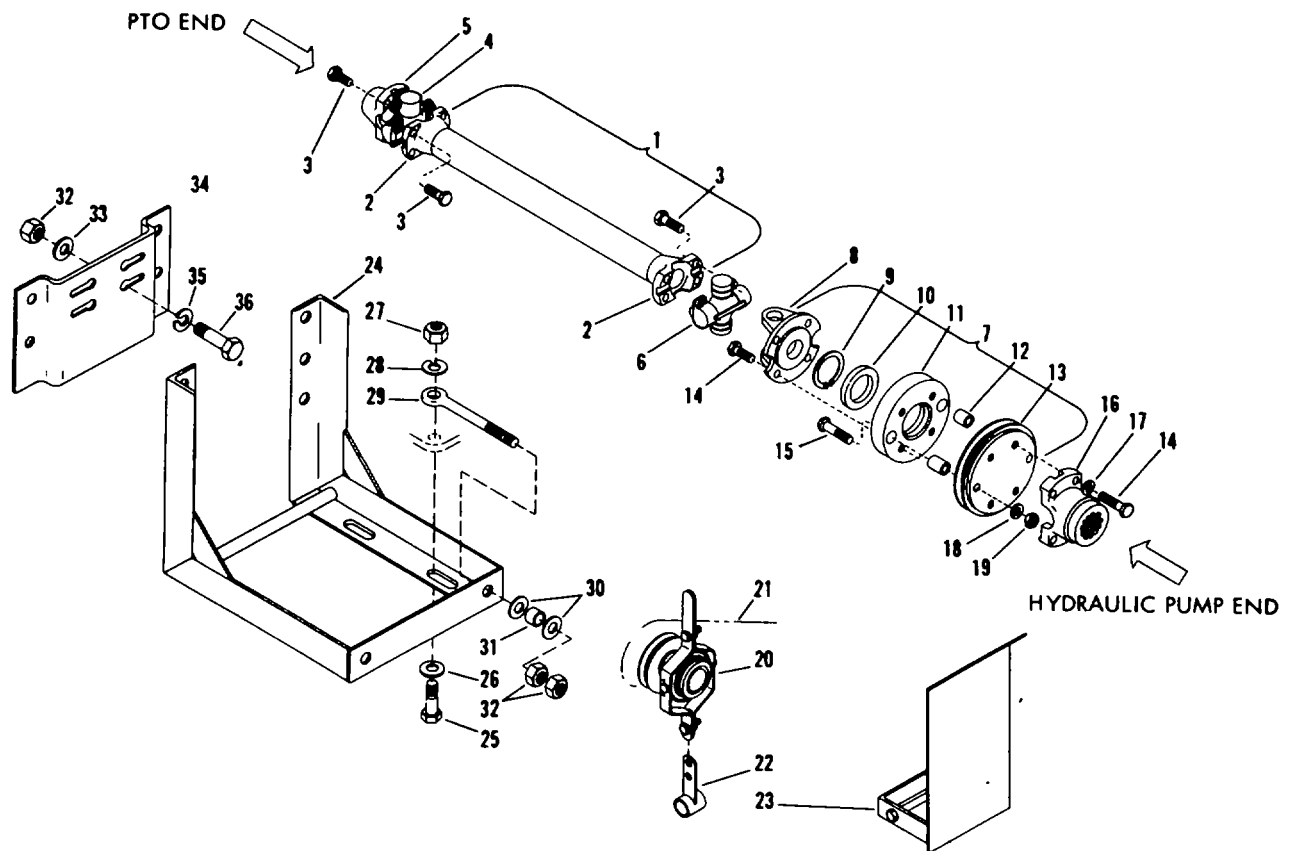

Figure 88. Blower Drive And Clutch
The blower unit (fig. 88) is belt-driven from a sheave (13) on the power take-off shaft of the PTO drive line. The V-belt is driven by a hand operated clutch mounted on the blower shaft. The blower is engaged by pushing the clutch lever (20) towards the belt drive and disengaged by pushing the lever away.